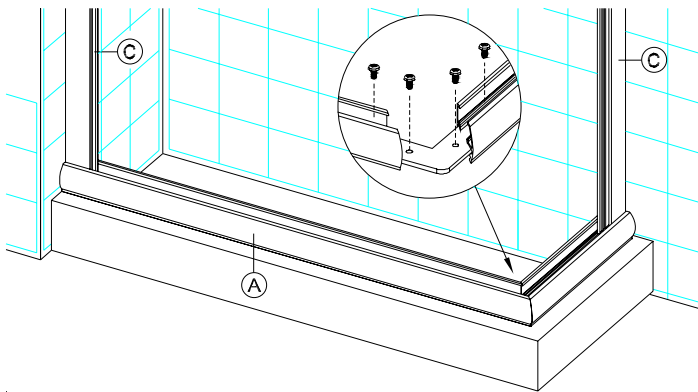

figure 3
Position Wall Jamb (C) onto end of base Sill and up against the shower walls as shown in figure 3. Plumb the Wall Jamb, then pencil mark the installation hole locations on the shower walls (3 per Jamb). Remove Wall Jamb. Using a 3/16" drill bit, (designed to drill through material you are working with), drill 1" deep installation holes in the locations previously marked. Insert Plastic Screw Anchors (Y) into holes. Reposition Jamb as before and secure Jamb to walls using six (6) 1-1/4" Installation Screws (W).